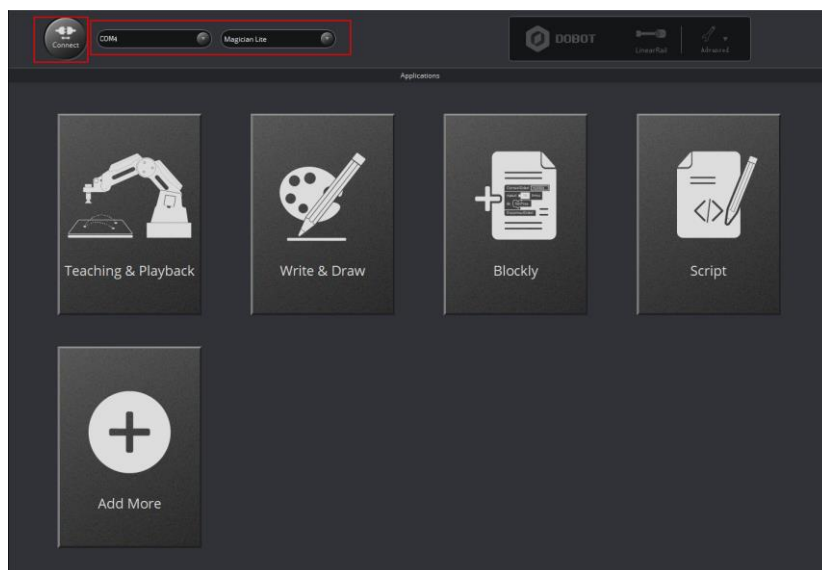

Figure 2.16 Click Connect
**Step 2** Click **Connect** on the DobotStudio page, as shown in Figure 2.16. Select **Magician Lite** in device type box (if using Magic Box, you need to select **Magic Box+Magician Lite**) and click **Connect**.